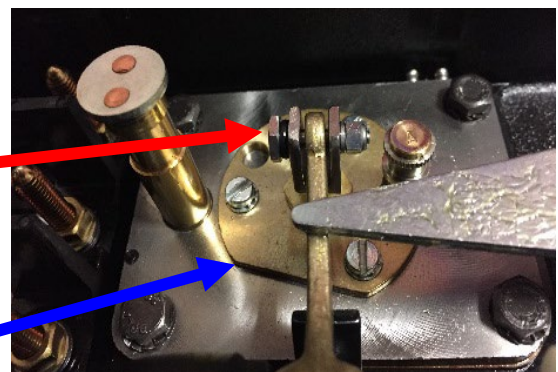

Figure 5 - Dashpot Area
- 1.6 Examine the actuating arm sealing grommet. This shall be replaced if found perished or missing. (See Figure 5)